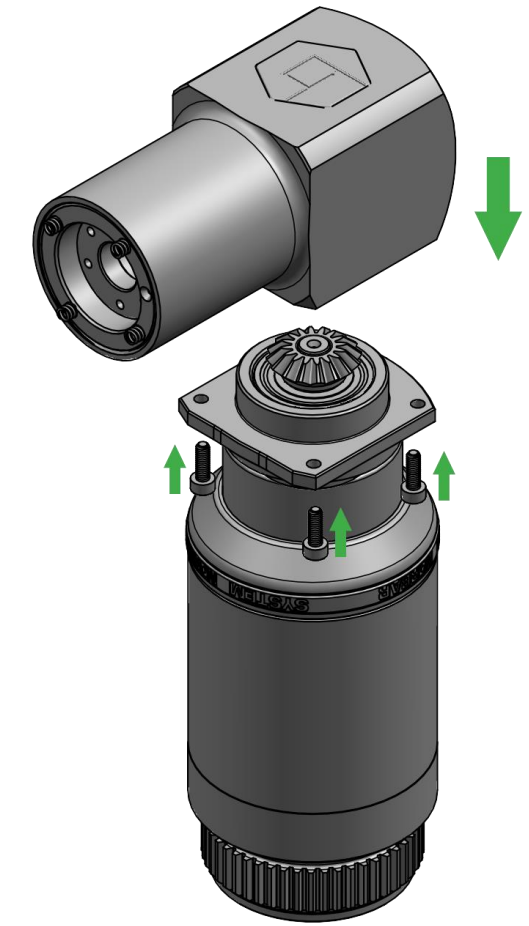

FIGURE 6 – Attaching Right Angle Gearbox Main Body
7. Pack the Right Angle Gearbox main body with grease to ensure continuous lubrication and place over the gearbox index plate ensuring correct alignment. See figure 6.
8. Secure in place with the 4 remaining SHCS M4 x 12 – 12.9 screws and torque tighten to 4.2 N·m. See figure 6.